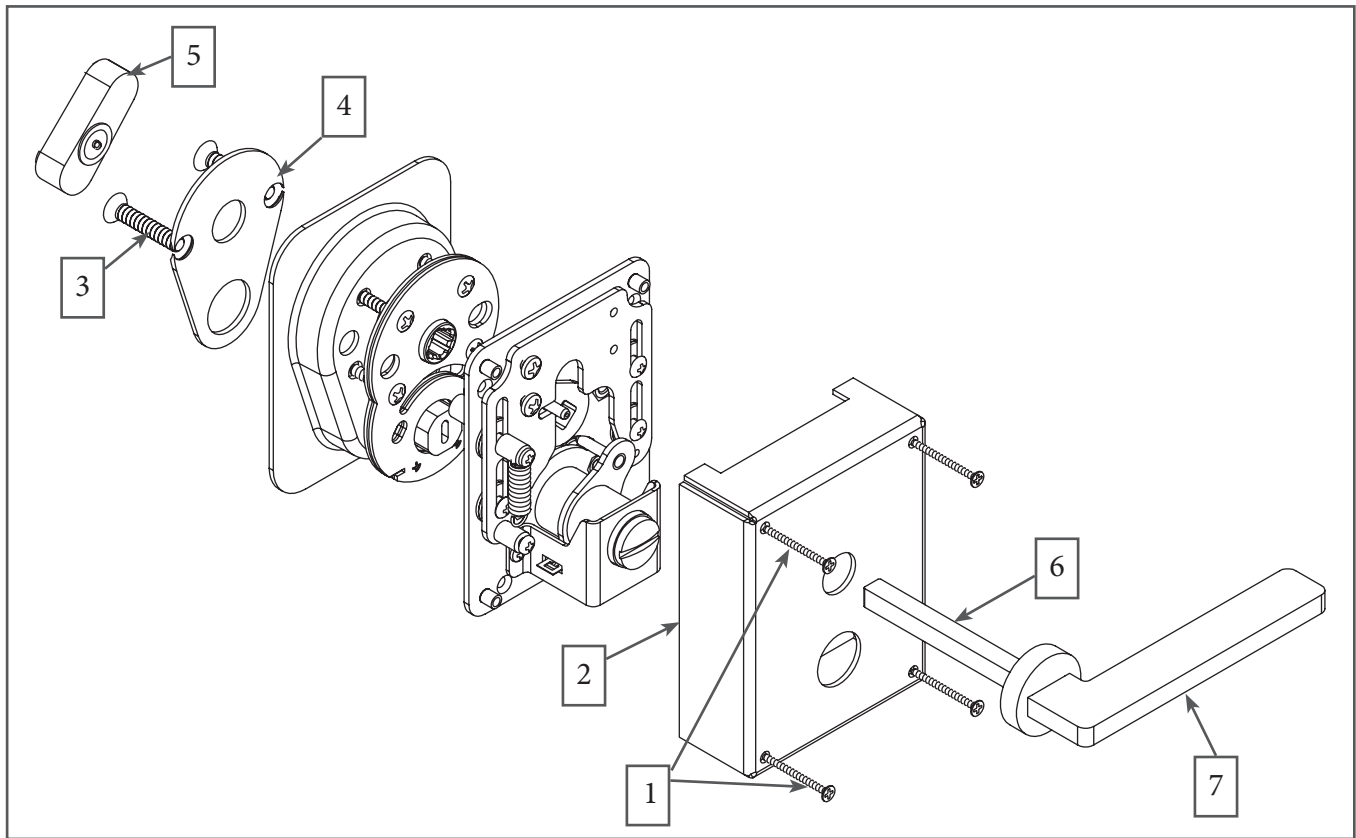

Figure 1
1. Remove the four 4-40 screws (1) from the front cover (2) of the door lock (Figure 1).
2. Remove the two 10-32 screws (3) from the cosmetic plate (4) on the back of the door lock.
3. Remove the handle hold (5) from the handle shaft (6) by loosening the set screw with an 1/8" Allen wrench.
4. Remove the handle (7) and handle shaft (6) from the top hole of the lock.